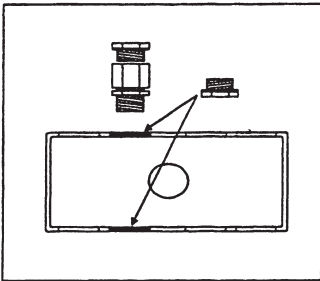

Fig. 1 : Cable Gland Positions
A double gang metal wall box (min. depth 45mm), with knockouts suitably located, and integral earth stud (Refer Fig. 1 for knockout positions).
If using flexible cable, suitable glands incorporating cable clamps must be fitted to the knockouts in the Controller Box. (Refer to Fig. 1).
- 3 Make cable entry holes in the plastic or metal box by removing suitable knockouts (Refer to Fig. 1).